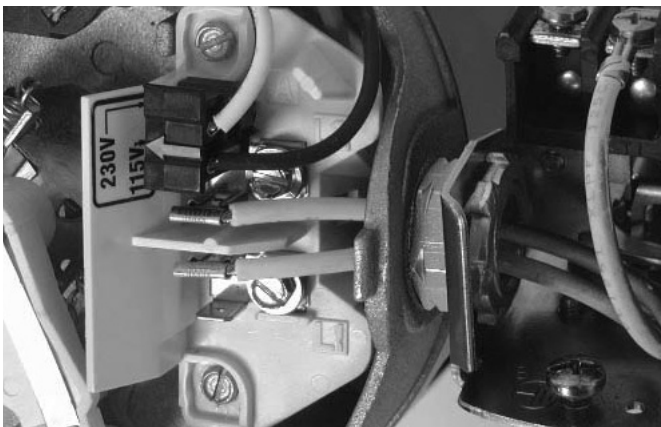

Figure 9: Voltage set to 115 volts, Plug Type
3. Move the voltage change plug to the 115 volt position. The plug will now cover 2 metal tabs and the arrow on the plug will line up with the 115V arrow on the label (see Figure 9).